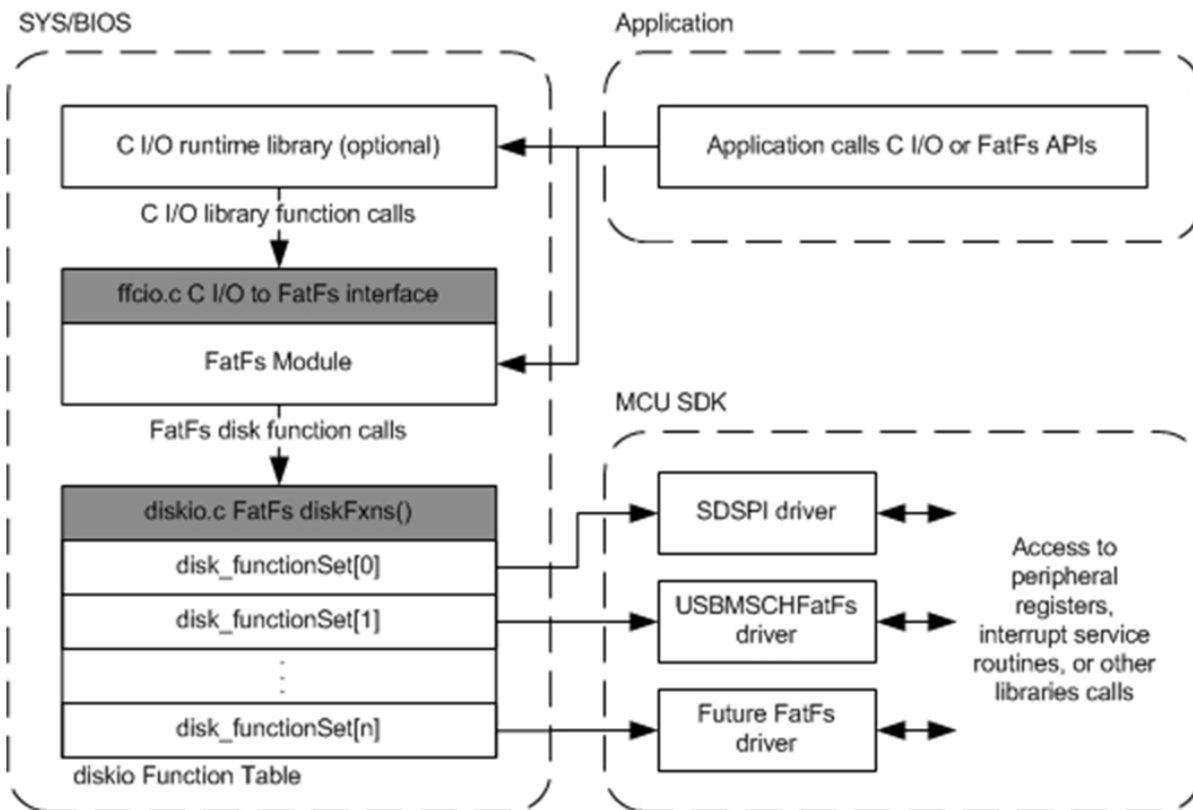

Figure 8-1 FatFs data flow
- **FatFs drivers.** The last layer in Figure 8-1 is the FatFs drivers. TI-RTOS comes with pre-built FatFs drivers that plug into the FatFS module provided by SYS/BIOS. A FatFs driver has no knowledge of the internal workings of FatFs. Its only task is to perform disk-specific operations such as initialization, reading, and writing. The FatFs driver performs read and write operations in data block units called sectors (commonly 512 bytes). Details about writing data to the device are left to the particular FatFs driver, which typically accesses a peripheral's hardware registers or uses a driver library.